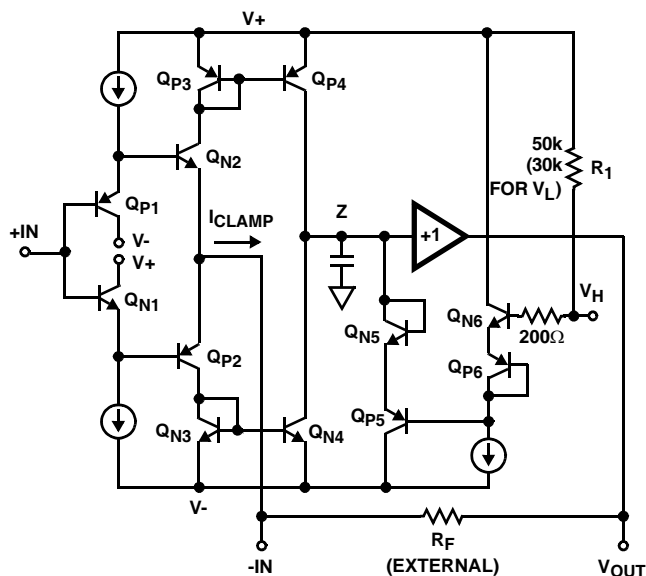

FIGURE 1. HS-1135RH SIMPLIFIED V_H CLAMP CIRCUITRY
Figure 1 shows a simplified schematic of the HS-1135RH input stage, and the high clamp (V_H) circuitry. As with all current feedback amplifiers, there is a unity gain buffer ($Q_{X1} - Q_{X2}$) between the positive and negative inputs. This buffer forces $-IN$ to track $+IN$, and sets up a slewing current of $(V_{-IN} - V_{OUT})/R_F$. This current is mirrored onto the high impedance node (Z) by $Q_{X3} - Q_{X4}$, where it is converted to a voltage and fed to the output via another unity gain buffer. If no clamping is utilized, the high impedance node may swing within the limits defined by Q_{P4} and Q_{N4} . Note that when the output reaches its quiescent value, the current flowing through $-IN$ is reduced to only that small current ($-I_{BIAS}$) required to keep the output at the final voltage.
The clamped output voltage will not be exactly equal to the voltage applied to V_H or V_L . Offset errors, mostly due to V_{BE} mismatches, necessitate a clamp accuracy parameter which is found in the device specifications. Clamp accuracy is a function of the clamping conditions. Referring again to Figure 1, it can be seen that one component of clamp accuracy is the V_{BE} mismatch between the Q_{X6} transistors, and the Q_{X5} transistors. If the transistors always ran at the same current level, there would be no V_{BE} mismatch, and no contribution to the inaccuracy. The Q_{X6} transistors are biased at a constant current, but as described earlier, the current through Q_{X5} is equivalent to I_{CLAMP} . V_{BE} increases as I_{CLAMP} increases, causing the clamped output voltage to increase as well. I_{CLAMP} is a function of the overdrive level ($V_{-IN} - V_{OUTCLAMPED}$) and R_F , so clamp accuracy degrades as the overdrive increases, or as R_F decreases. As an example, the specified accuracy of $\pm 60mV$ for a 2X overdrive with $R_F = 510\Omega$ degrades to $\pm 220mV$ for $R_F = 240\Omega$ at the same overdrive, or to $\pm 250mV$ for a 3X overdrive with $R_F = 510\Omega$.